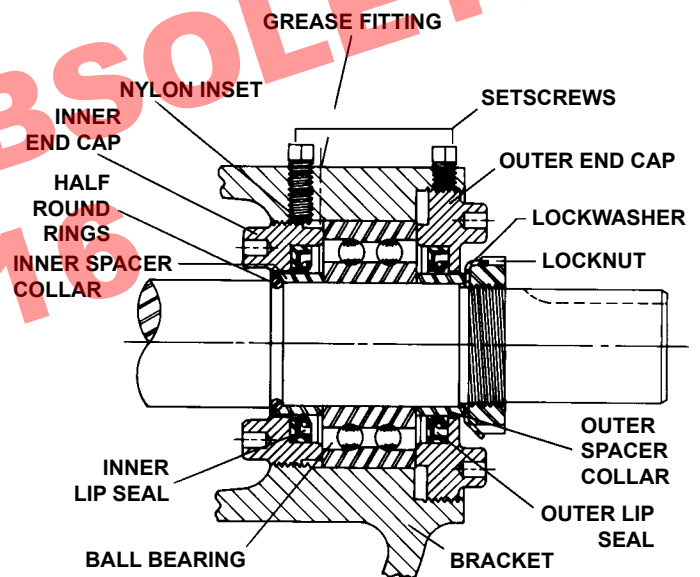

FIGURE 10
6. Slide the inner bearing spacer collar over the shaft with recessed end toward rotor. **NOTE:** The pair of half round rings must be inserted in the groove in the shaft and then slide the spacer collar over them. **See Figure 10** (not used on Q and M size pumps).
7. Press the lip seal (lip toward end of shaft) into the inner end cap and insert the end cap through the shaft end of the bracket. With two fingers turn it clockwise (looking at end of shaft) until it engages the threads. The bosses on the end cap must be toward the rotor. Turn the end cap until it projects slightly into the opening on the side of the bracket. **NOTE:** The end cap must not be turned so far that the lip of the lip seal drops off the end of the spacer collar on the shaft or the end cap becomes disengaged with the threads. **See Figure 10.**
9. Install the lip seal (lip toward end of shaft) and bearing spacer in the outer end cap and turn the end cap into the bracket until tight against the bearing. **See Figure 10.**
10. Put lockwasher and locknut on shaft. Insert length of hardwood or brass through port opening between rotor teeth to keep shaft from turning. Tighten locknut to 120-150 ft.-lbs. Torque (LS) or 170-190 ft.-lbs. Torque (Q, QS, M). Bend one tang of lockwasher into slot of locknut. If tang does not line up with slot, tighten locknut until it does. Failure to tighten locknut or engage lockwasher tang could result in early bearing failure and cause damage to rest of pump. Remove length of hardwood or brass from port opening.
See Figure 10, page 11.